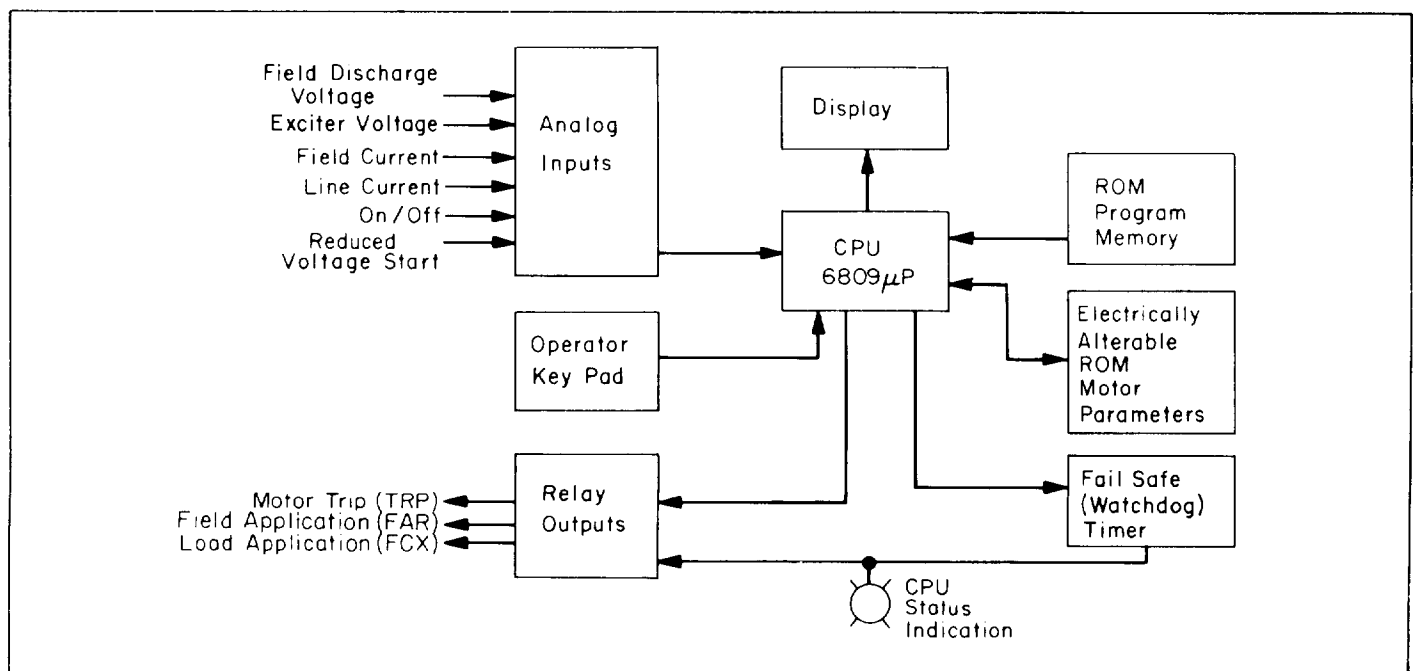

Figure 20A. CR192  $\mu$ SPM block diagram
1. **Resync mode.** Resync mode operation will cause the  $\mu$ SPM Field Application Relay, FAR, to act to remove the motor-field excitation. Action will occur from either lagging power factor below the programmed set-point, or a line current surge above approximately four times motor full-load current. See Figure 20A.